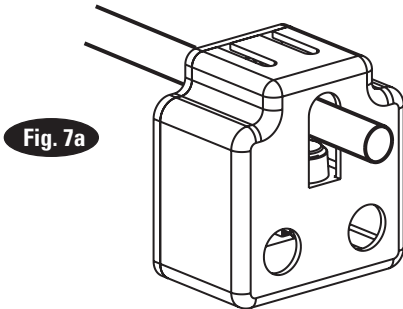

Fig. 7a
**6. Overhead Assembly:** Adjust overhead to 114" between centerline of sheave pins, Fig. 6. Install (4) 3/8"-16NC x 2-3/4" Flanged HHCS & Flanged Locknuts, do not tighten. Install overhead stiffener angle inside center of overhead using (4) 3/8"-16NC x 1" Flanged HHCS and Flanged Locknuts, see Fig. 6. Slide switch box over switch bar ensuring lockout holes face the power unit column. Use (2) 1/4"-20NC x 2-3/4" lg. HHCS, (2) flat washers, (2) 3/4" spacers, and (2) 1/4" star washers and nuts to mount switch box to overhead, Fig. 7a and Fig. 7b.